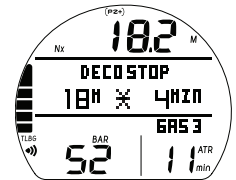

Fig. 58 - DV2 MAIN
- > Once within 10 FT (3 M) of and below the required Stop Depth, the full Stop icon (smaller Up and Down Arrows with Stop Bar) will be displayed solid (Fig. 58).